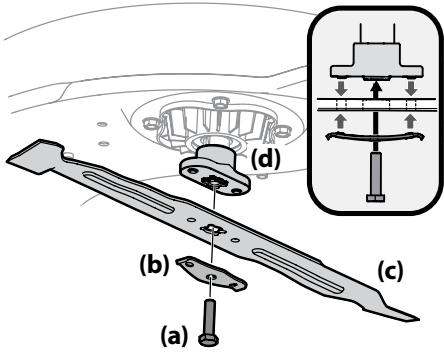

Figure 4-11
3. Remove the hex screw (a) and the blade bell support (b) which holds the blade (c) and the blade adapter (d) to the deck motor. See Figure 4-11.
4. Remove blade (c) and adapter (d) from the deck motor spindle. See Figure 4-11.